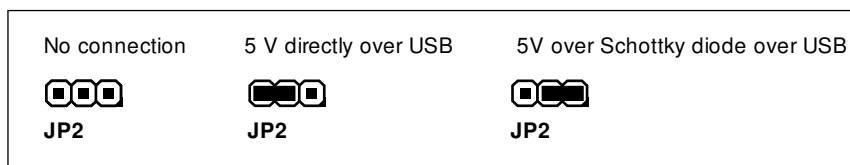

Figure 2.2: Possible connections of JP2
**JP2** controls how the power supply of the circuit that should be programmed (connected to CONN1). Figure 2.2 shows the possible connections: